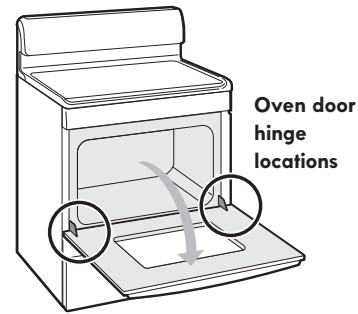

Figure 48: Door at horizontal position
3. Fully open the oven door, horizontal with floor (Figure 48).